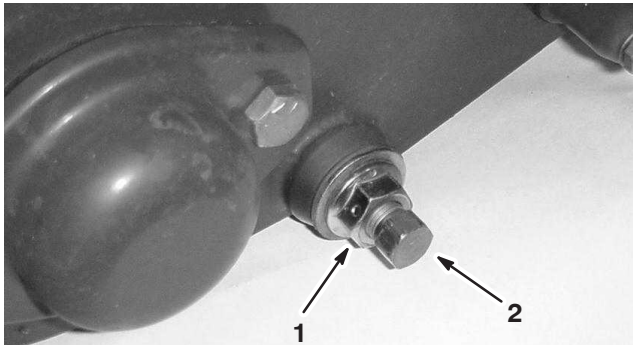

Figure 48
3. On each side of the machine, loosen the jam nut securing the bedbar bolt (Fig. 48).
4. Remove each bedbar bolt allowing bedbar to be pulled downward and removed from machine. Save the 2 nylon and 2 stamped steel washers on each end of bedbar (Fig. 48).